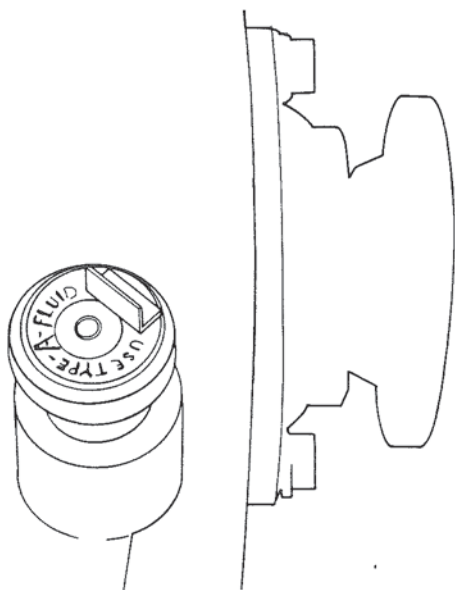

Figure 99. Oil Filler Cap and Dipstick Installation.
1. Place oil filler cap and dipstick assembly in the oil filler tube provided on rear left side of transmission case. Figure 99. Push down on filler cap and dipstick until assembly "bottoms" on tube, then turn cap to right as far as cap screw permits.